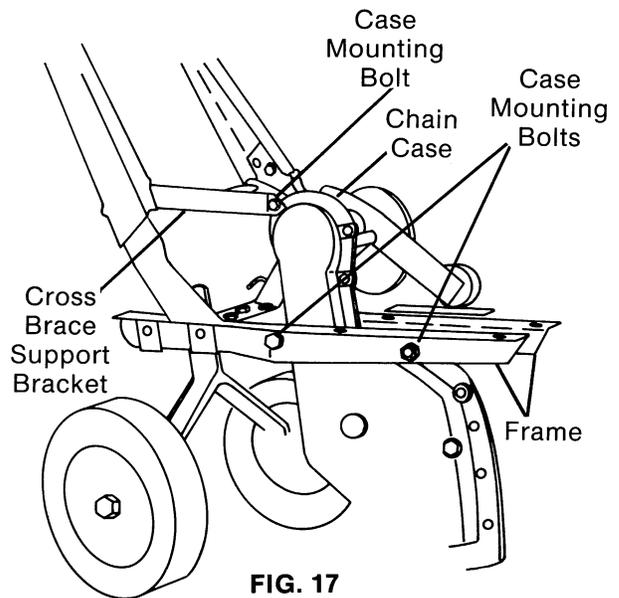
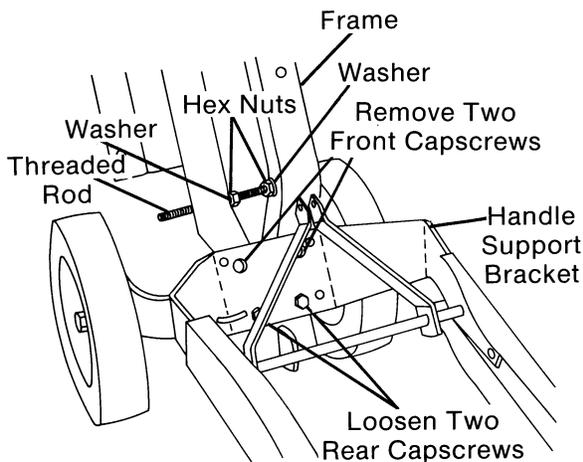
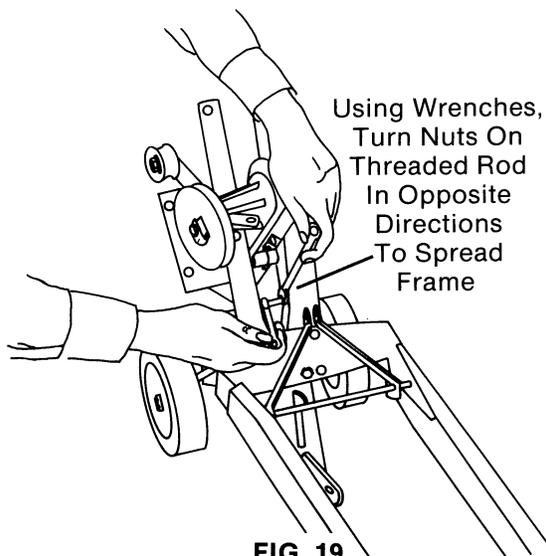

FIG. 17
FIG. 18
FIG. 19
- F. Remove three bolts securing chain case to the unit. (One on cross brace support bracket and two holding chain case between the frame.) (Fig. 17)
Remove two front capscrews, lockwashers and nuts holding handle support bracket to frame and loosen the two rear capscrews (do not remove) (Fig. 18). Insert threaded rod thru second hole from front of frame. (Fig. 17) Install a washer, nut another nut and the second washer. Continue threading the first nut until bolt becomes tight. Using wrenches, turn nuts in opposite directions so frame spreads (Fig. 19). Separate frame just enough to allow chain case to be removed from frame.